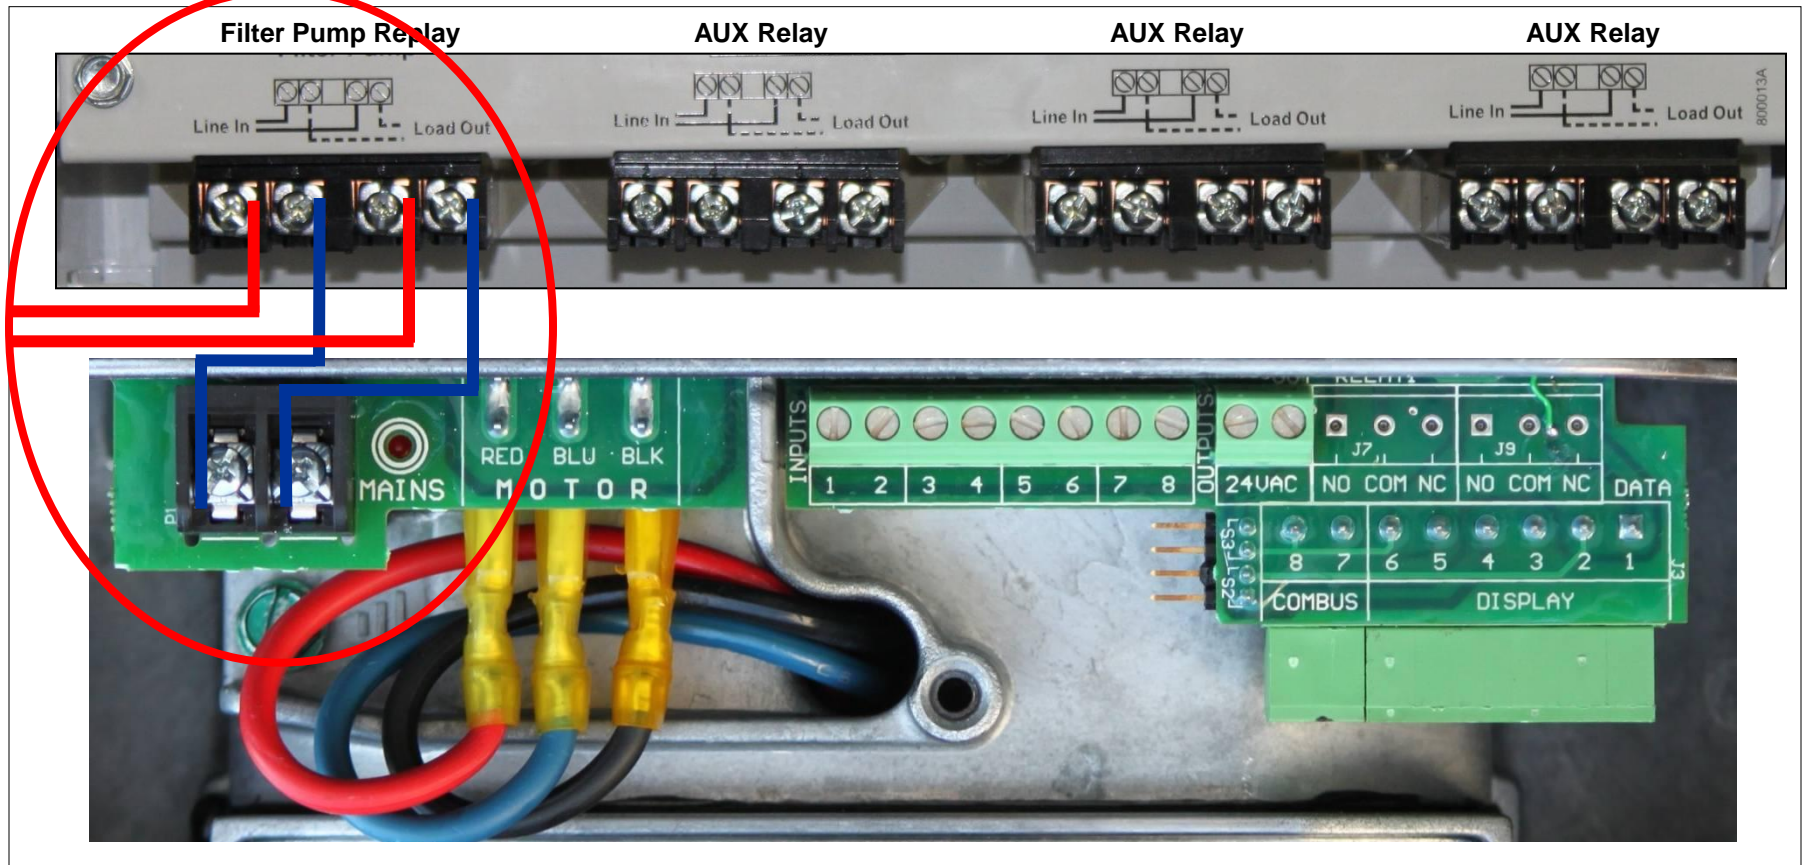

Fig 24
1. Pump power (230 VAC) needs to be brought into the “line in” contacts on the Filter Pump Relay from a breaker in the control box. The “Load Out” side will feed the incoming high voltage for the pump (fig 24). Cable used for data connections should be rated for maximum voltage in motor compartment.